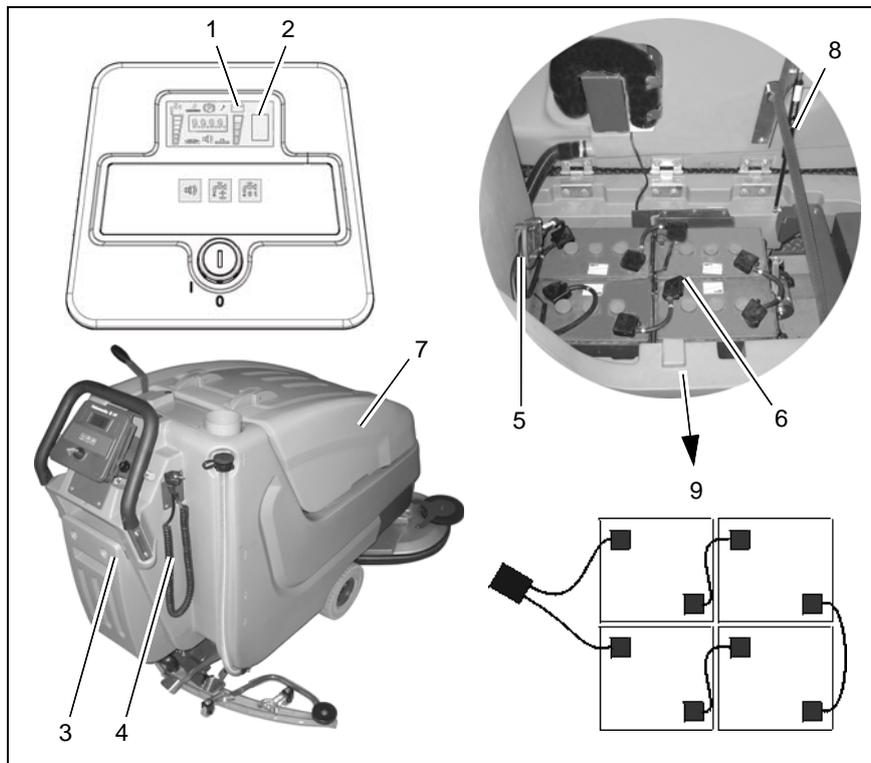

Fig.7
Use the integrated battery charger (Fig. 7/3) to charge batteries. Proceed to connection of the charger by means of the mains cable (Fig. 7/4) with safety plug. Charging batteries is recommended if at least one bar of the LDS display has extinguished after operation of the machine. On this behalf you are requested to observe the operating instructions of the charger 88-60-2723 as well as the operating instructions of the battery manufacturer. In case it is intended to change the type of battery the charger has to be adjusted only by Hako contract workshops.
3. Open empty soiled water tank (Fig. 7/7) and secure by support (Fig. 7/8).
4. Disconnect battery plug (Fig. 7/5).
2. Open empty soiled water tank (Fig. 7/7) and secure by support (Fig. 7/8).
4. Connect battery poles and enclosed connecting cables according to wiring diagram (Fig. 7/9). Provide for tight fitting and grease poles.